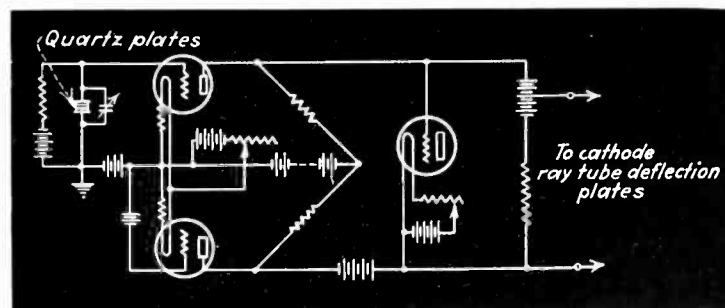

Fig. 3—Circuit used with piezo-electric pressure indicator
Fig. 3—In this form of circuit, the current flow through R_x is alternating. It is particularly suited to measuring the resistance of electrolytes, since no polarization can occur
Two interesting variations on the basic circuit of Fig. 1 are possible. The first of these is shown in Fig. 3. It will be noted that the grid in this circuit is no longer "free" due to the presence of R_g . However, the voltage E_c has the proper polarity to impress a negative potential on the grid when the other secondary potentials are positive. Due to R_g , the current flow through R_x is essentially alternating in character, and thus, if R_x is an electrolyte, polarization is prevented.
Fig. 3.—Two alternative testing schemes. (A) is similar to the bridge circuits of Fig. 2 but uses an audio amplifier. (B) shows the voltage comparison method, using a VT voltmeter
In Fig. 3-A is shown another form of bridge circuit which may be used in place of the one just described. If the indicated 60-cycle current source is replaced with an audio oscillator, capacitance and resistance measurements may be made at various frequencies.
If it is desired to measure the impedance of an electrolytic capacitor directly, the circuit of Fig. 3-B will serve the purpose admirably. This diagram is self-explanatory.